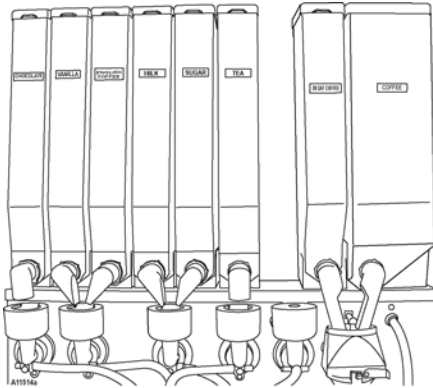
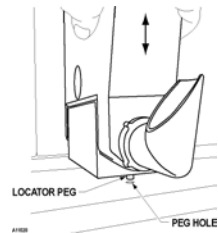
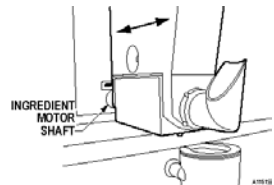

Figure 5a. Canister Lineup
Figure 5c. Locator Peg
Figure 5d. Motor Shaft
2. If installing the canisters for the first time, go to step 3. If refilling the canisters, hold the top and bottom of the canister and slowly lift it up so that the locator peg clears the peg hole. **Figure 5c**. Slowly slide the canister forward until it is out of the ingredient motor shaft. **Figure 5d**.
8. Review the canister arranged as shown in **Figure 5a**. Hold the canister carefully at the bottom and top to prevent spilling. Gently place the filled canister back on the product shelf. **Figure 5d**.
9. Line up the hollow shaft behind the canister with the ingredient motor shaft. See **Figure 5d**.
10. Slowly slide the canister towards the motor shaft until the locator peg falls inside the hole on the product shelf. See **Figure 5c**.